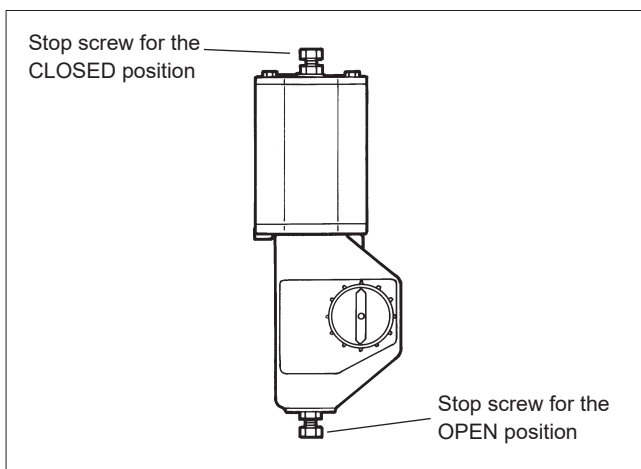

Fig. 39 Open and closed positions of a B1 actuator
- Drive the actuator piston to the extreme outward position and turn the valve into the closed position, see Fig. 39.
- Adjust the segment open and closed positions (limits to piston movement) by means of the actuator stop screws, see Fig. 39. The correct opening angle is 90°. The accurate position can be seen in the flow port. Check that the yellow arrow indicates the position of the segment. **Keep your fingers out of the flow port!**